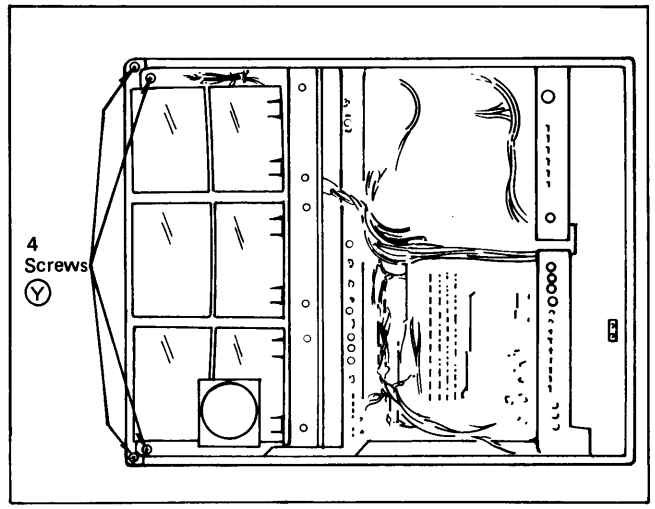
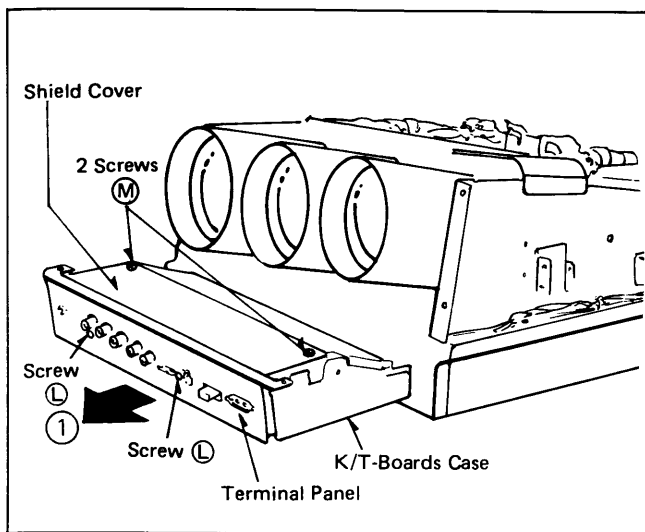

Fig. 11
Fig. 12
- Remove 2 screws (L) as shown in Fig. 12.
- Remove 4 screws (Y), and carefully slide the K/T-Boards case forward as indicated by the arrow (1) in Fig. 11 and Fig. 12.
- Remove 2 screws (M), and remove the shield cover as shown in Fig. 12.